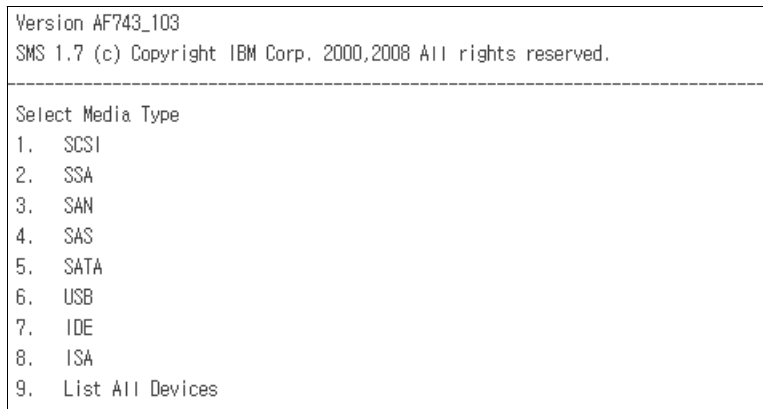

Figure 10-25 SMS menu: Select Media Type
23. Select **6. USB**, as shown in the Figure 10-25.